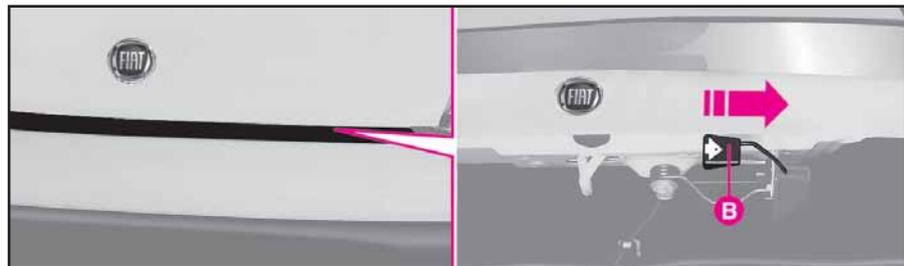

fig. 75
- 2) Press tab B as shown in **fig. 75**.